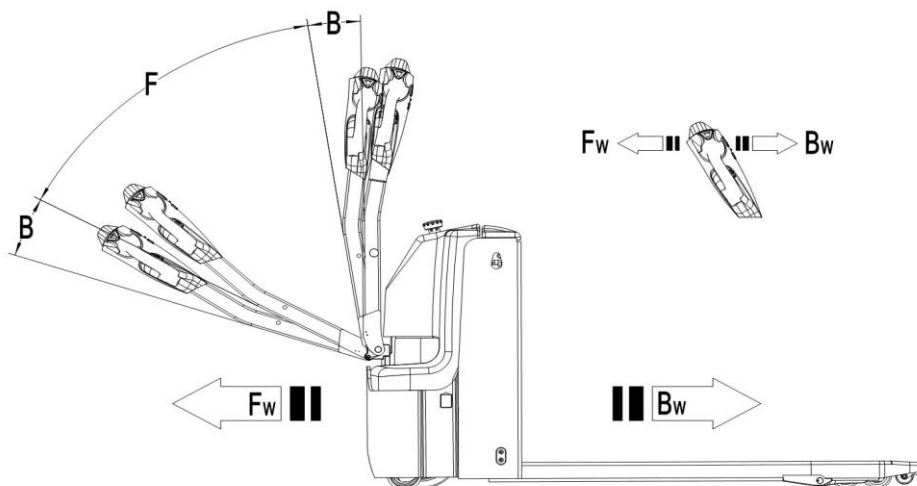

Fig. 11: Operating direction
Press the button switch (9) to start the vehicle by the combination lock, move the tiller to the operating zone ('F', fig.11).
Turn the accelerator button to the desired direction forward 'Fw.' or backwards Bw.'(fig. 11).